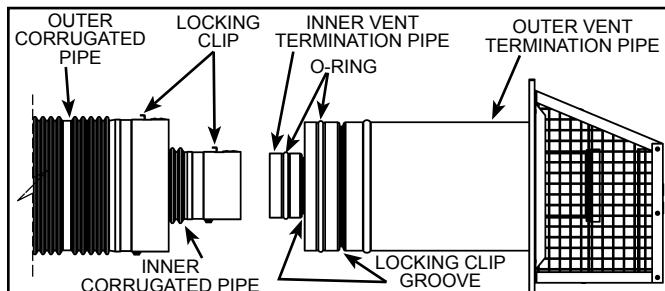
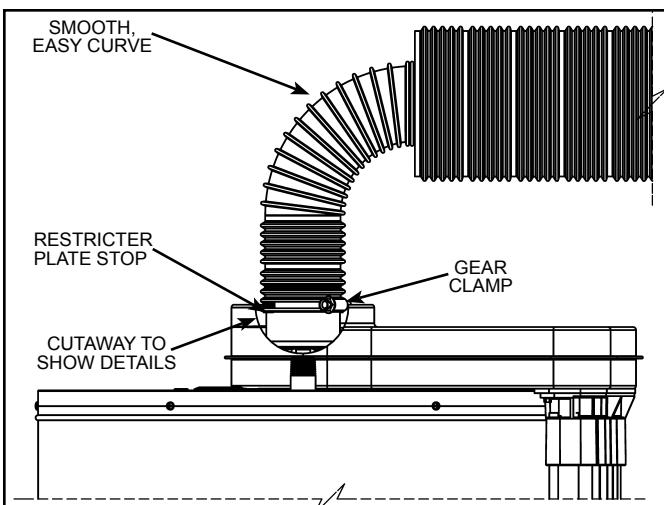
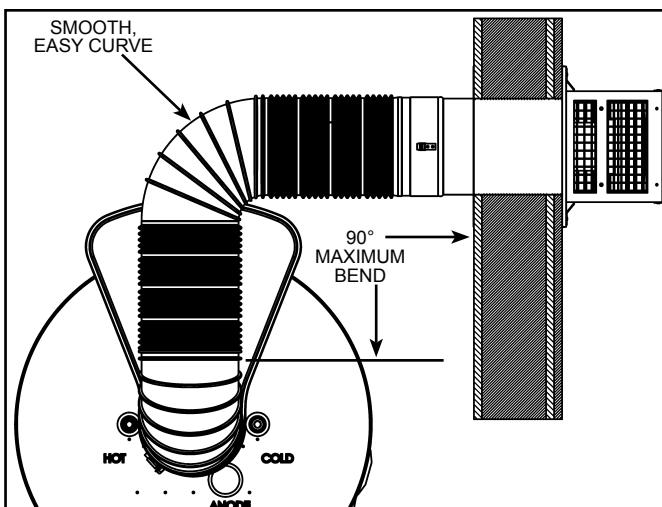
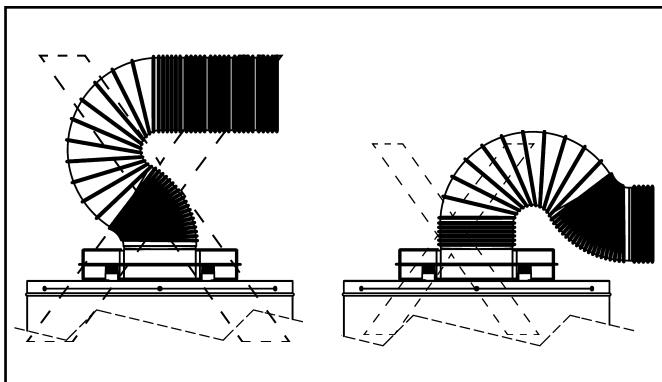

Figure 19
Figure 24
Figure 26
Figure 27
Figure 19 thru Figure 26 show how to assemble and connect the venting system.
- Do not use the restricter plate in an offset installation (see Figure 26).
To connect the vent piping to the vent termination hood, first slide the inner (3") corrugated pipe over the inner vent termination pipe. Continue this action until the locking clip on the corrugated pipe snaps into position in the corresponding groove (see Figure 19). Secure corrugated pipe with screw (supplied) inserted through hole opposite the locking clip.
Repeat this process with the outer (6") corrugated pipe and lock it into position on the outer pipe on the vent termination (see Figure 19). Secure corrugated pipe with screw (supplied) inserted through hole opposite the locking clip.
Bend both the corrugated pipes toward the flue connection on the water heater. Pull and connect the inner corrugated pipe to the water heater's flue tube reducer with hi-temp red silicone (included) and gear clamp. Make sure this connection is tight and leak proof (see Figure 24).
Note: To ensure good exhaust gas flow, bend vent piping using a smooth, easy curve as shown in Figure 24 thru Figure 26. Do not use reverse or compound curves as shown in Figure 27.